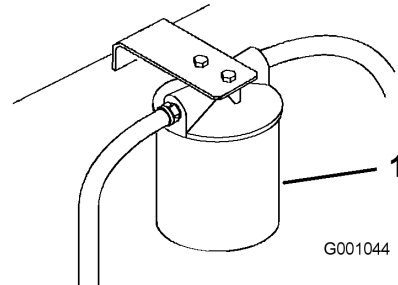

Figure 65
3. Place drain pan under filter, remove the old filter and wipe the filter adapter gasket surface clean (Figure 65).